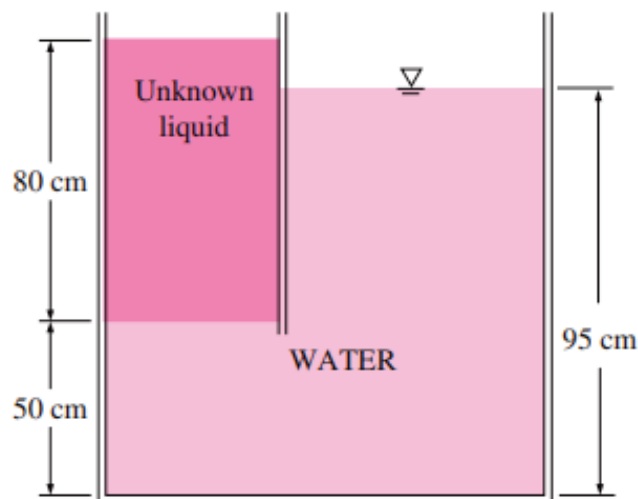

Figure 1 / Rajah 1
- (2). (a). The top part of a water tank is divided into two compartments, as shown in Figure 1. Now a fluid with an unknown density is poured into one side, and the water level rises a certain amount on the other side to compensate for this effect. Based on the final fluid heights shown in figure 1, determine the density of the fluid added. Assume the liquid does not mix with water.